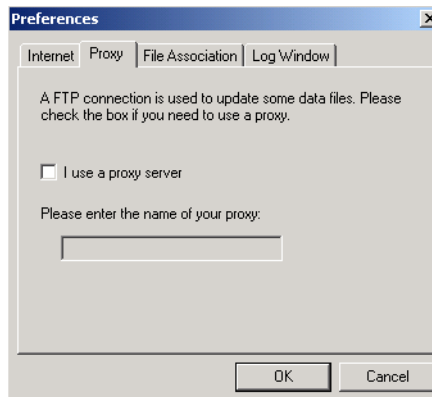

Figure 2-7. Setting your Proxy
2. Click the **Proxy** tab, as shown in Figure 2-7.